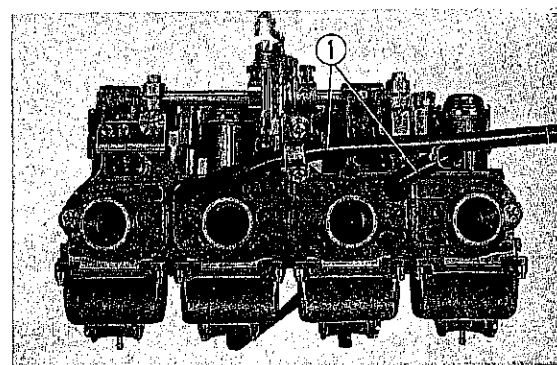

Fig. 194 ① Fuel tubes
② Stay plate B ④ Nuts
13. Install and route the two fuel tubes as shown in Fig. 194.